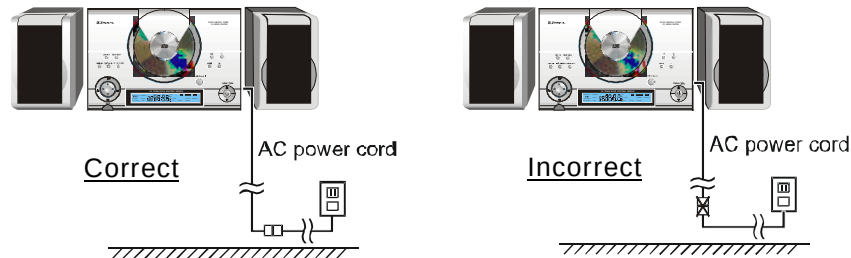

Figure 2.
- If there is no AC outlet directly below the desired mounting location you may use a UL approved extension cord. In this case you should allow the AC plug of the main unit to reach all the way to the floor and connect the extension cord on the floor, not above the floor. (See Figure 2.)